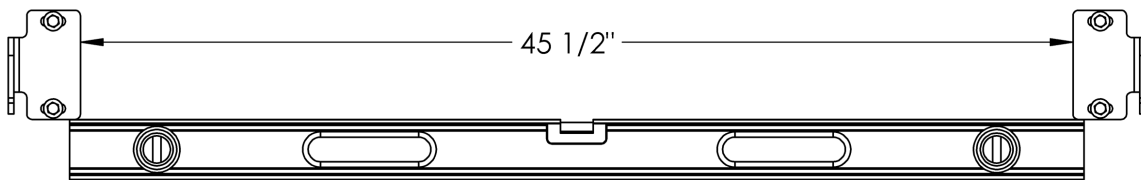

Figure 4: Space out the Wall Brackets
14. Using the tape measure, set the distance from the inside edge of the left wall bracket to the inside edge of the right wall bracket to 45-1/2" (**Figure 4**). Level the wall bracket and fully tighten the lag screws. Do not over tighten the lag screws.